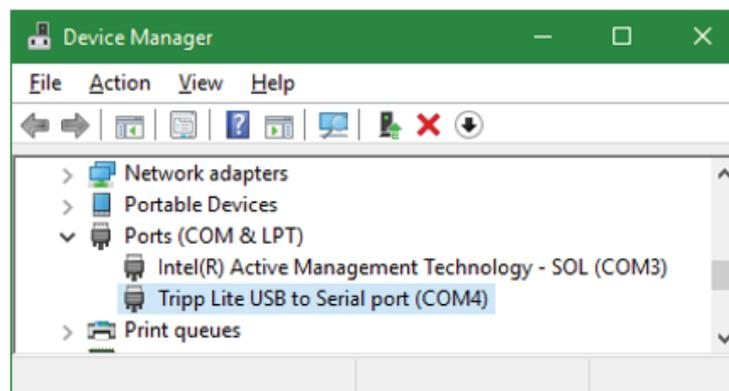

Figure 5-4. Device Manager
2. Find out which COM port on the PC the RS-232 Bootload cable is connected to. This can be found through Device Manager under the Ports (COM & LPT) section. Figure 5-4 shows an example where a USB to Serial Port adapter and COM4 is the port number being used.